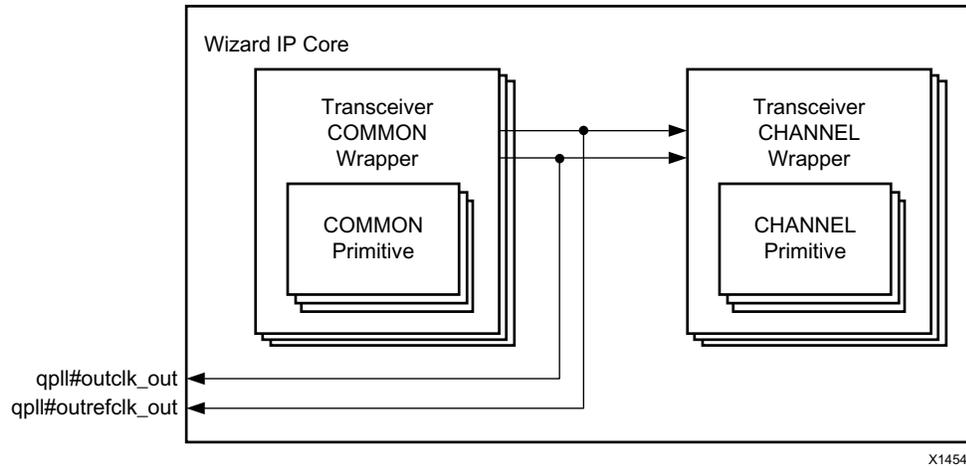

Figure 3-8: Transceiver Common Located in the Core
**Figure 3-8** illustrates the case where one or more transceiver common primitives are enabled and located within the core instance, when user-specified. In this case, the QPLL#OUTCLK and QPLL#OUTREFCLK ports of the transceiver common primitives internally drive the QPLL#CLK and QPLL#REFCLK ports of the associated transceiver channel primitives, as required (where # is 0 or 1 for QPLL0 or QPLL1, respectively). However, those same signals are also provided as outputs on the core interface as qp11#outclk\_out and qp11#outrefclk\_out.